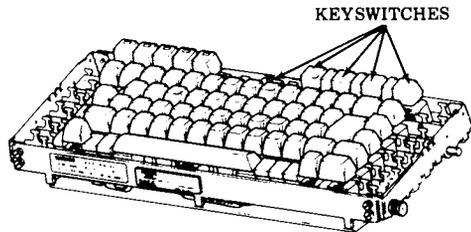

Fig. 13—Keyswitch Identification
- (b) Remove the **INTERLOCK, PRINTER TEST, PARITY, DUPLEX** and **CPS** keyswitches (Fig. 13).